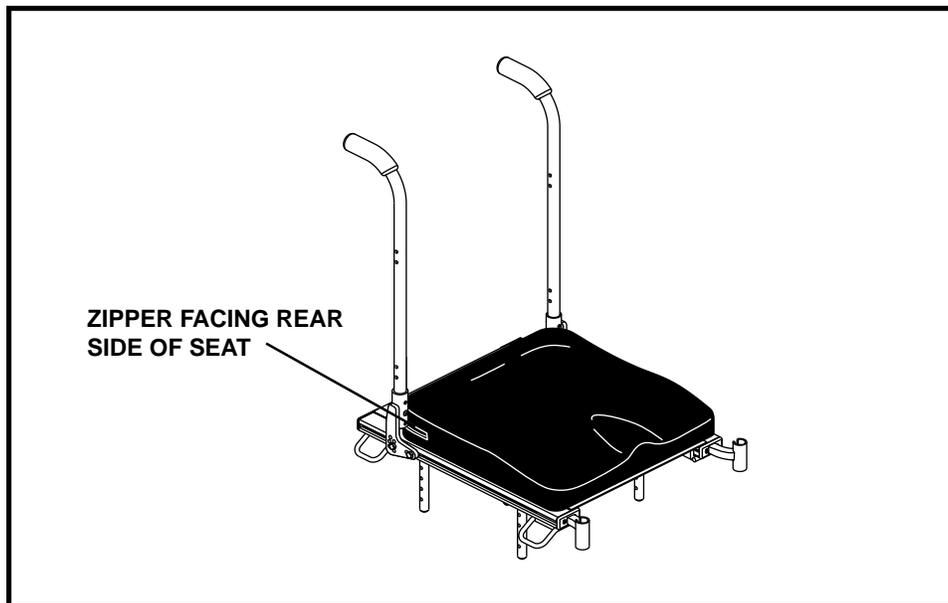

Figure 1. Cushion Placement
2. Place the cushion on the seat so that the “Front Bottom” label is located on the front of the seat, label side facing down. The zipper on the cushion will face the rear side of the seat. See figure 1.